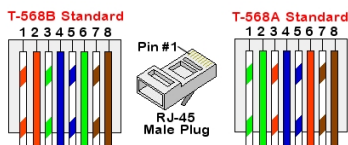

Figure 21: Standard cable wiring
- c. Insert the eight wires into an RJ45 connector, as described in *Figure 21*
7. For the switch/router side, use a pre-terminated cable or use a crimper to prepare an RJ45 communication connector: Insert the eight wires into the RJ45 connector in the same order as above (*Figure 21*).